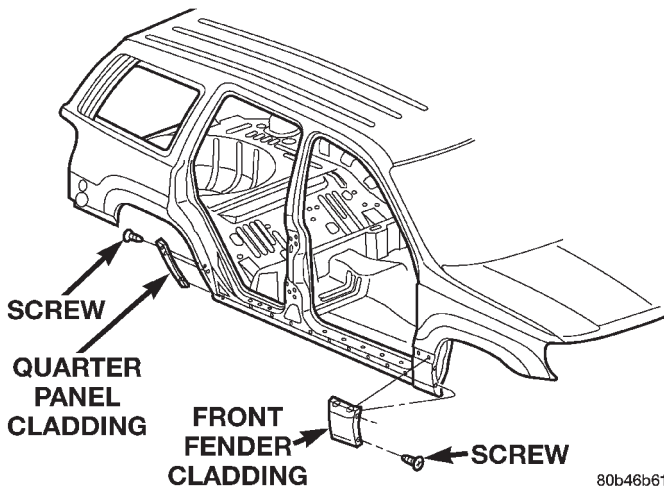

Fig. 53 Front Fender/ Quarter Panel
- (1) Remove the screws at wheel opening (Fig. 53).
- (2) Using a trim stick, gently pry bottom of cladding up.
- (3) Lift upwards and remove cladding.